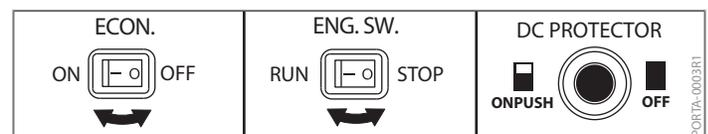

FIGURE 5
3. Push engine switch to the **RUN** position. **SEE FIGURE 5**
SEE FIGURE 5